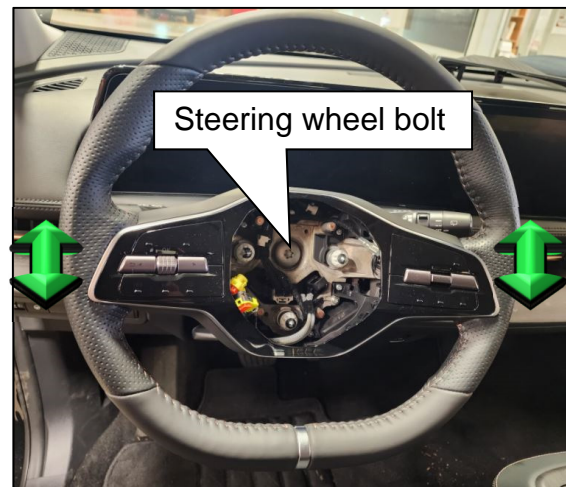

Figure 5
- a. Hold the steering wheel at the 3 o'clock and 9 o'clock position (Figure 5).